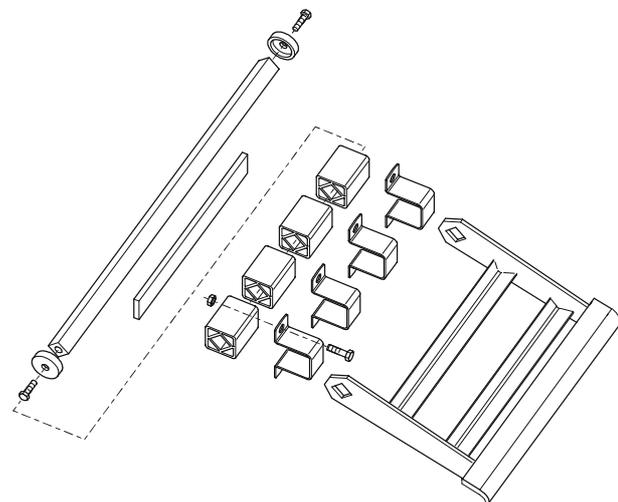

Figure 86 – Winch Pressure Plate
- c. If necessary remove and disassemble the pressure plate assembly (refer to Figure 86).
- d. Remove the bearing housing cover (25), cap screw and washer (24).
- e. Stand the assembly on the gear box end and remove the bearing housing cover (1) and ring (2) from the gear unit end plate.
- f. Remove the gear unit end plate, cap screw and washer (13).
- g. Remove bearing (4) using bearing pullers then lift the clutch gear wheel off and remove the 'V' ring.
m. Remove bearing (21) from the gear wheel using bearing pullers. Press bearing (23) out of the gear box.